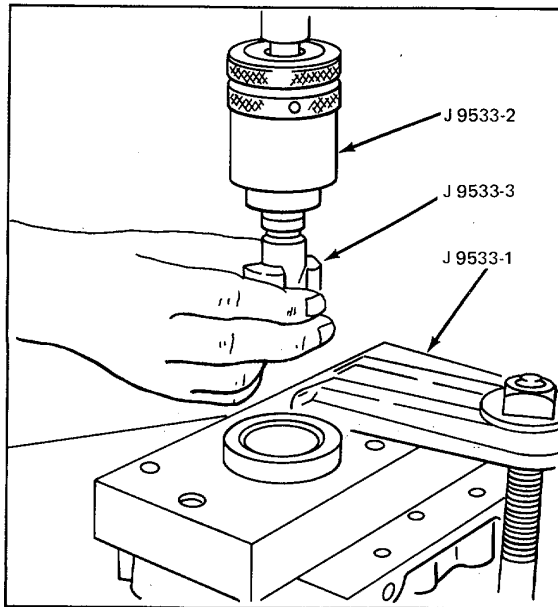

Figure 2. Install Cutting Tool in Holder
4. Install tool holder J 9533-2 in the drill press and insert rough cutting tool J 9533-3 in the holder (Fig. 2).